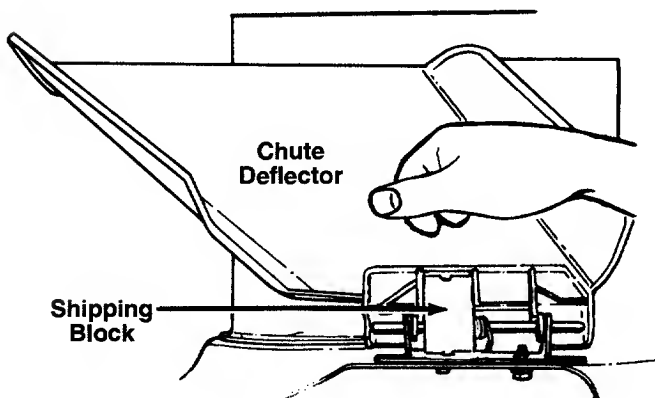

FIGURE 8.
- ← 1. The chute deflector on your mower is held in an upright position by a block for shipping purposes only. This shipping block must be removed and discarded before the mower is put into operation. See figure 8.